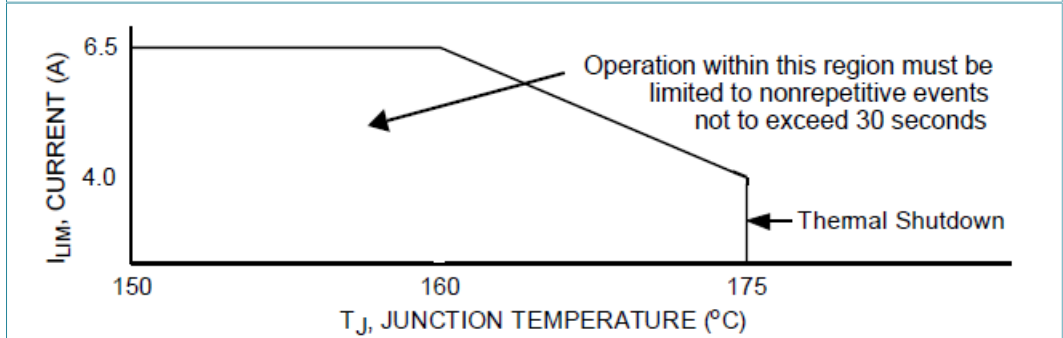
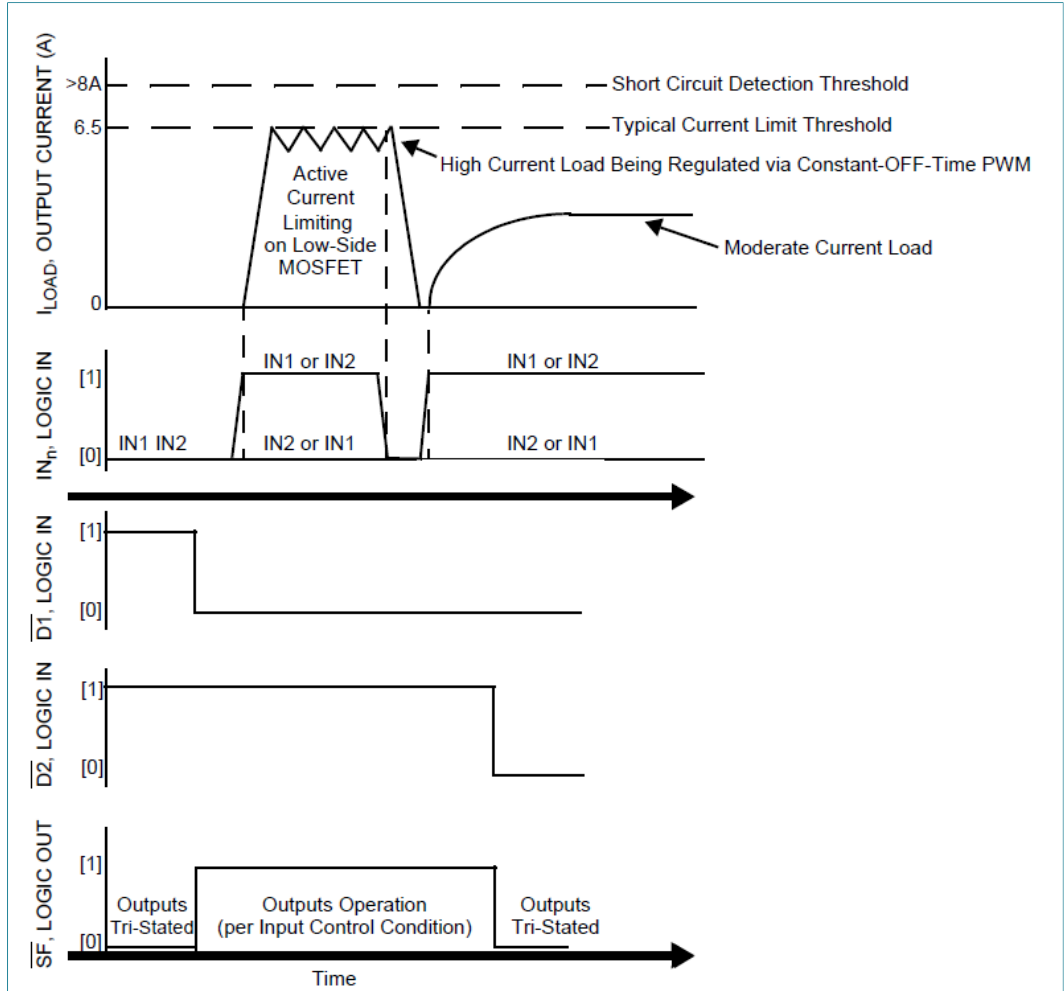
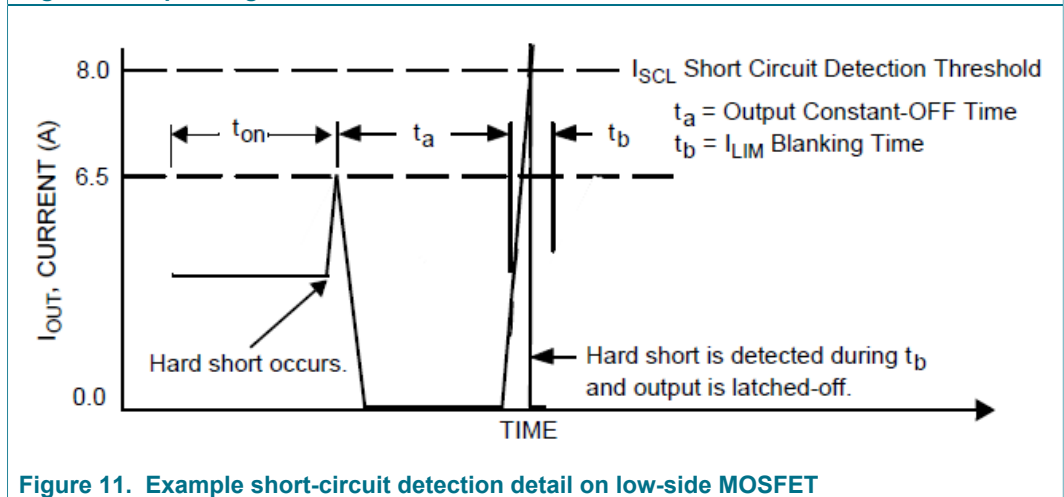

Figure 9. Active current limiting versus temperature (typical)
Figure 10. Operating states
Figure 11. Example short-circuit detection detail on low-side MOSFET
- [5] Load currents ramping up to the current regulation threshold become limited at the I_{LIM} value. The short-circuit current possess a di/dt that ramps up to the I_{SC}H or I_{SC}L threshold during the I_{LIM} blanking time, registering as a short-circuit event detection and causing the shutdown circuitry to force the output into an immediate 3-state latch OFF. See Figure 10 and Figure 11. Operation in current limit mode may cause junction temperatures to rise. Junction temperatures above ~160 °C causes the output current limit threshold to progressively foldback, or decrease with temperature, until ~175 °C is reached, after which the T_{LIM} thermal latch OFF occurs. Permissible operation within this foldback region is limited to nonrepetitive transient events of duration not to exceed 30 seconds. See Figure 9.
A disable timer (time t_b) used to detect currents that are higher than current limit is activated at each output activation to facilitate hard short detection (see Figure 11).
The maximum current flow under normal operating conditions is internally limited to I_{LIM} (5.2 A to 7.8 A). When the maximum current value is reached, the output stages are 3-stated for a fixed time (t_a) of 20 μ s typical. Depending on the time constant associated with the load characteristics, the current decreases during the 3-state duration until the next output ON cycle occurs (see Figure 11 and Figure 14).
The current limiting threshold value is dependent upon the device junction temperature. When $-40\text{ }^\circ\text{C} \leq T_J \leq 160\text{ }^\circ\text{C}$, I_{LIM} is between 5.2 A to 7.8 A. When T_J exceeds 160 °C, the I_{LIM} current decreases linearly down to 4.0 A typical at 175 °C. Above 175 °C the device overtemperature circuit detects T_{LIM} and overtemperature shutdown occurs (see Figure 9). This feature allows the device to remain operational for a longer time but at a regressing output performance level at junction temperatures above 160 °C.